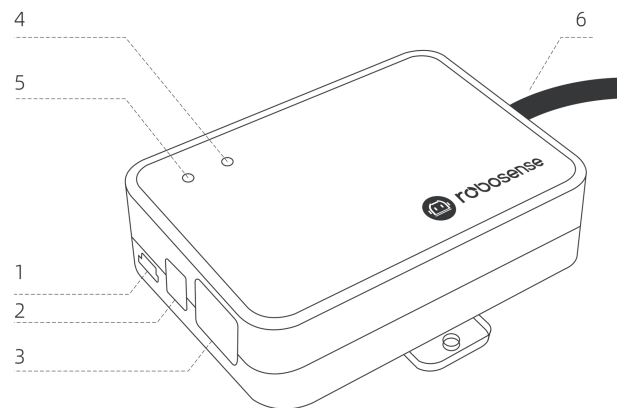

Figure 9 Interface Box Schematic
- c) After powering on, under normal working conditions, the red and green power indicator lights on the LiDAR's Interface Box will be constantly on. The positions of the indicator lights are shown in Figure 9 .